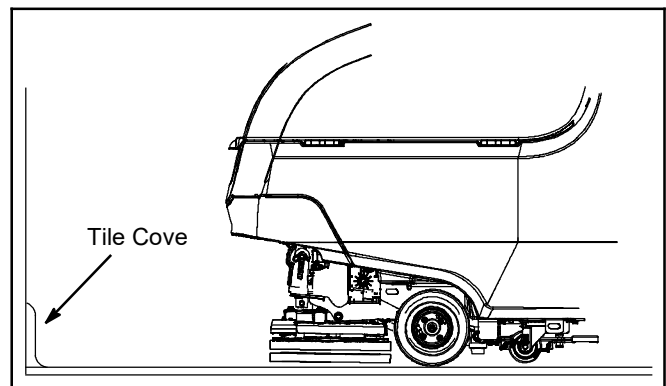

FIG. 73
8. Orbital Scrub Head Model - Use caution when working near the tile cove (Figure 73) and floor mounted fixtures such as pedestal sinks and other breakable items. Keep the metal scrub head edge away to avoid possible damage.